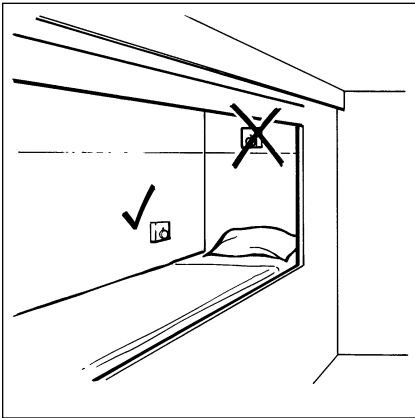

Figure 3-22 Thermostat Location
3. Locate Proheat thermostat in central area of sleeper, approximately 12" above the bunk. Avoid direct air flow from sleeper fan ducts. (See Figure 3-22)
2. Locate the Proheat thermostat in a central area of the sleeper, approximately 12" above the bunk . Avoid direct air flow from sleeper fan ducts. (See Figure 3-22)
3. Locate the Proheat thermostat in a central area of the sleeper, approximately 12" above the bunk. Avoid direct air flow from sleeper fan ducts. (See Figure 3-22)